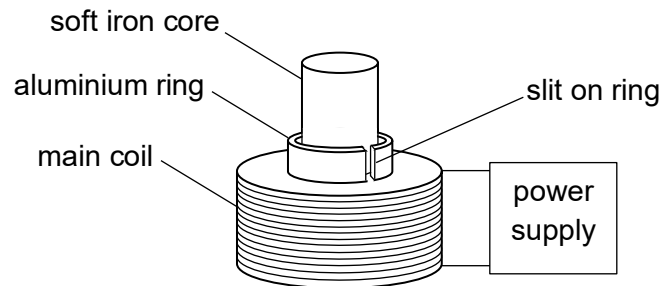

Fig. 5.2
- (iv) The power supply is switched off. A small slit is then made on the ring, as shown in Fig. 5.2.